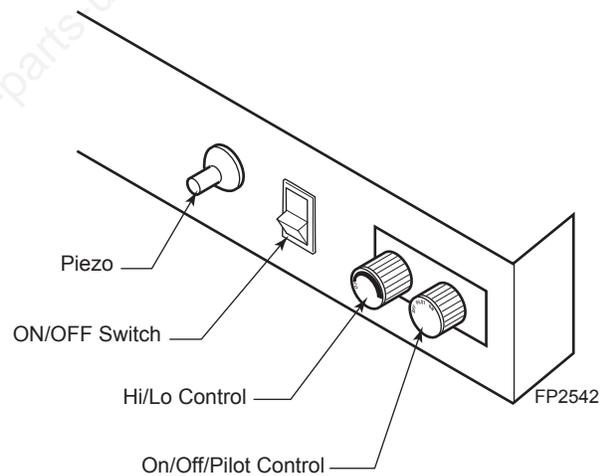

Figure 36 -
- Refer to Page 21, Figure 36 for the location of the piezo ignitor and control knob. Push in gas control knob slightly and turn control knob clockwise to the OFF position.